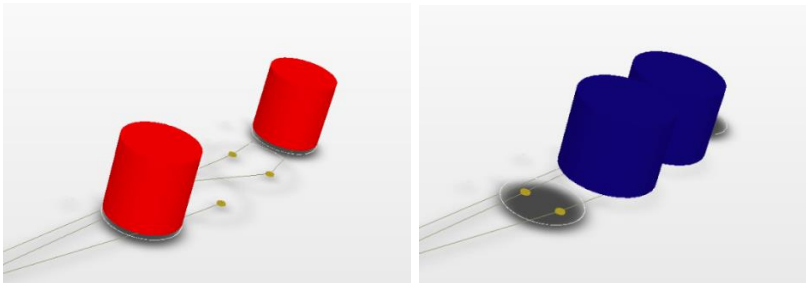

Figure 16. 3D View of Alternate Parts 120VAC and 240VAC
- b) Confirm that both 120VAC and 240VAC variant modes will display the 3D body of its respective variant as shown in Figure 16